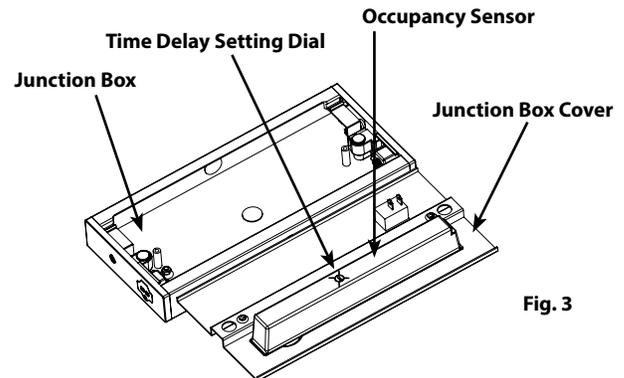

Fig. 3
- **Time Delay Setting Dial** is located on sensor surface (see Fig. 3)